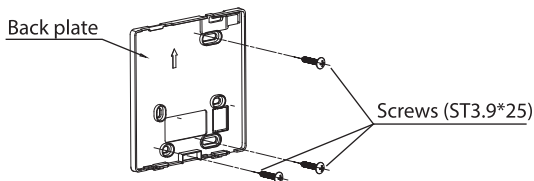

Figure 3.
- Fasten the backing plate on the wall with the 3 screws (ST3.9\*25) and plugs (Figure 3) provided.